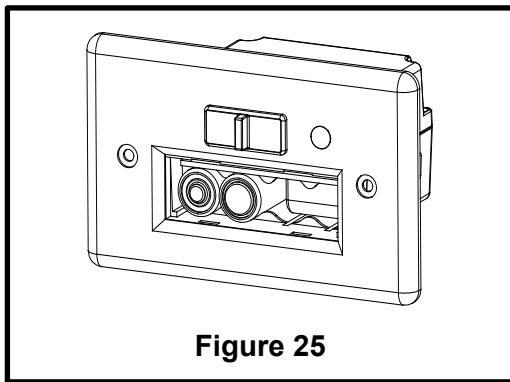

Figure 25
2. Locate the receiver that is attached to the side of the burner unit (Figure 25), detach it, slide open the cover, and insert the 4 included alkaline AA batteries by sliding open the battery cover, inserting the batteries, and sliding the cover closed.